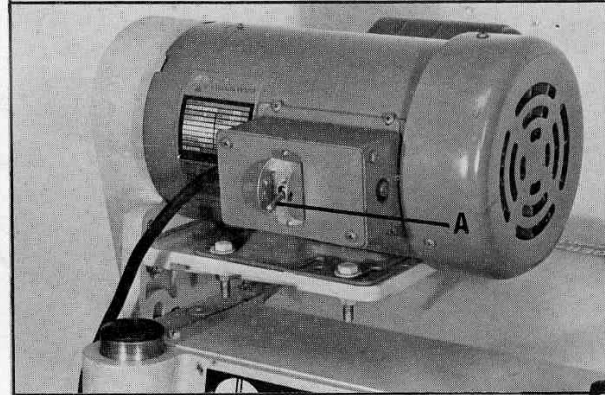

Fig. 37
The ON-OFF switch for Single Phase machines is located on the front portion of the motor, as shown at (A) Fig. 37.